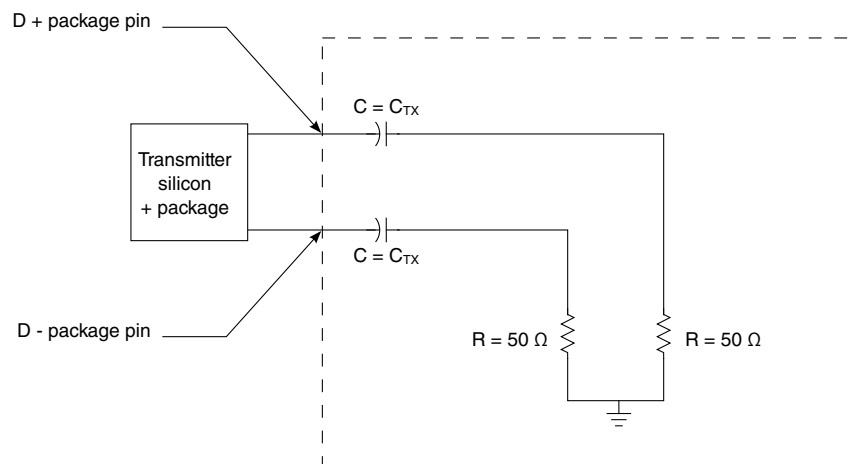

Figure 86. Test and measurement load
<p>1. Specified at the measurement point into a timing and voltage test load as shown in Figure 86 and measured over any 250 consecutive transmitter UIs.</p> <p>2. A $T_{TX-EYE} = 0.75$ UI provides for a total sum of deterministic and random jitter budget of $T_{TX-JITTER-MAX} = 0.25$ UI for the transmitter collected over any 250 consecutive transmitter UIs. The $T_{TX-EYE-MEDIAN-to-MAX-JITTER}$ median is less than half of the total transmitter jitter budget collected over any 250 consecutive transmitter UIs. It must be noted that the median is not the same as the mean. The jitter median describes the point in time where the number of jitter points on either side is approximately equal as opposed to the averaged time value.</p> <p>3. The chip's SerDes transmitter does not have C_{TX} built-in. An external AC coupling capacitor is required.</p> <p>4. For recommended operating conditions, see Table 4.</p>
- Specified at the measurement point into a timing and voltage test load as shown in Figure 86 and measured over any 250 consecutive transmitter UIs.
<p>1. Specified at the measurement point and measured over any 250 consecutive UIs. The test load in Figure 86 must be used as the receiver device when taking measurements. If the clocks to the receiver and transmitter are not derived from the same reference clock, the transmitter UI recovered from 3500 consecutive UI must be used as a reference for the eye diagram.</p> <p>2. A $T_{RX-EYE} = 0.40$ UI provides for a total sum of 0.60 UI deterministic and random jitter budget for the transmitter and interconnect collected any 250 consecutive UIs. The $T_{RX-EYE-MEDIAN-to-MAX-JITTER}$ specification ensures a jitter distribution in which the median and the maximum deviation from the median is less than half of the total. UI jitter budget collected over any 250 consecutive transmitter UIs. It must be noted that the median is not the same as the mean. The jitter median describes the point in time where the number of jitter points on either side is approximately equal as opposed to the averaged time value. If the clocks to the receiver and transmitter are not derived from the same reference clock, the transmitter UI recovered from 3500 consecutive UI must be used as the reference for the eye diagram.</p> <p>3. It is recommended that the recovered transmitter UI is calculated using all edges in the 3500 consecutive UI interval with a fit algorithm using a minimization merit function. Least squares and median deviation fits have worked well with experimental and simulated data.</p> <p>4. For recommended operating conditions, see Table 4.</p>